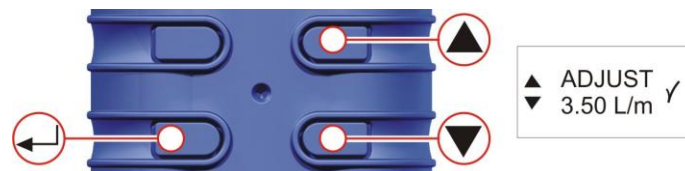

Figure 26 (High Set) Adjust Screen
**L. CALIBRATION OF HIGH SET POINT (Fig. 26)**